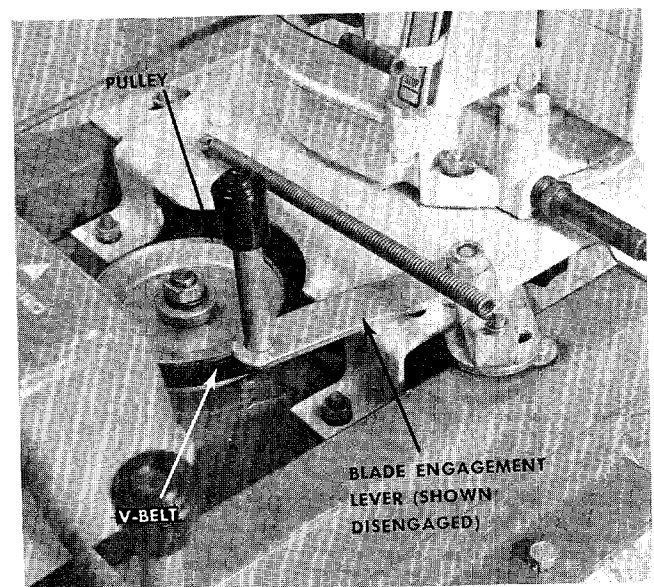
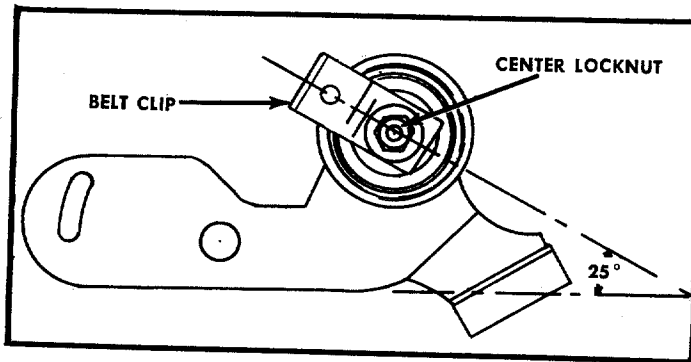

FIGURE 21. BLADE ENGAGEMENT LEVER
FIGURE 22. BELT IDLER
Step 5. Place the blade engagement lever in the engaged position (See figure 21.) and loosen the center locknut on the blade idler. See figure 22.
Use a ½" open end wrench. When installing the new belt be sure the belt clip is in the same position as shown in figure 22.